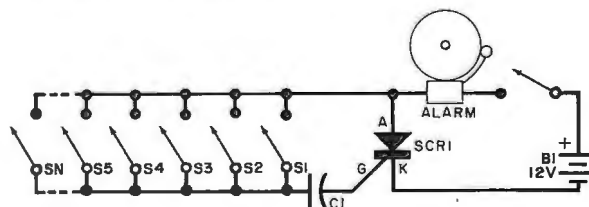

Fig. 7. Burglar alarm uses sensors in parallel.
Reader's Circuit. Guy Isabel (1725, Henri-Bourassa East Blvd., Apt. 25 Montreal, Quebec, H2C 1J5, Canada) uses the simple burglar alarm circuit shown in Fig. 7 in his own home. It includes a lantern battery, a spst power lock switch, an alarm device such as a heavy-duty bell, a medium-current silicon controlled rectifier, a capacitor and a group of normally open (NO) spst magnetic switches, S1 through SN. The required capacitor value will vary somewhat with the gate sensitivity of the SCR used but, generally, will range from 0.05 μ F to about 0.5 μ F although a small electrolytic of 1 to 5 μ F may be needed in some installations. In practice, the magnetic switches are mounted to protect doors, windows and other access openings, arranged to close when the door or window is opened, and wired in parallel.